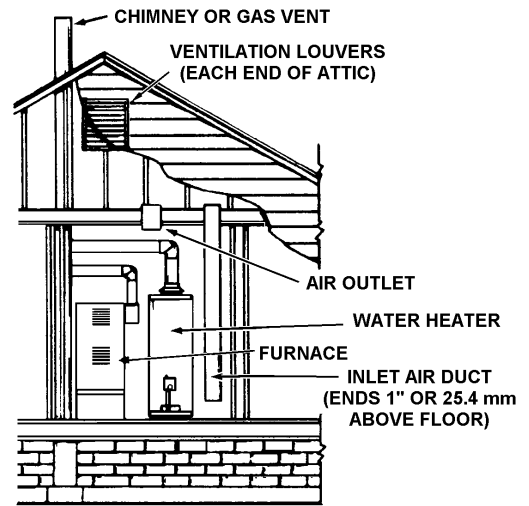

FIGURE 7.
2. When communicating with the outdoors through vertical ducts, each opening shall have a minimum free area of 1 square inch per 4,000 Btu per hour (5.5 cm2/kW) of total input rating of all equipment in the enclosure, see Figure 7.